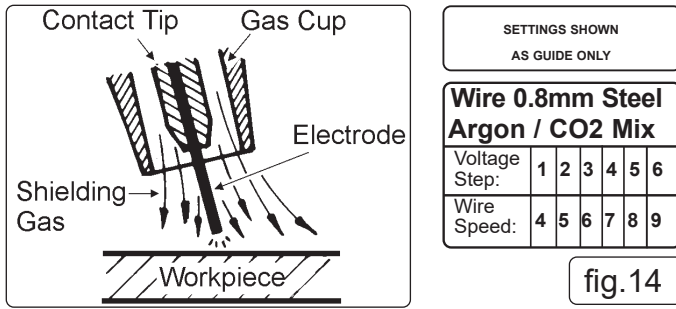

fig.14
**5.1.3. Setting the welder controls.** In principle, the lower the amperage required, the slower the wire speed. See setting chart for voltage and corresponding wire speeds (see fig.14). Note: these settings are only a guide and will vary according to the operator's experience.